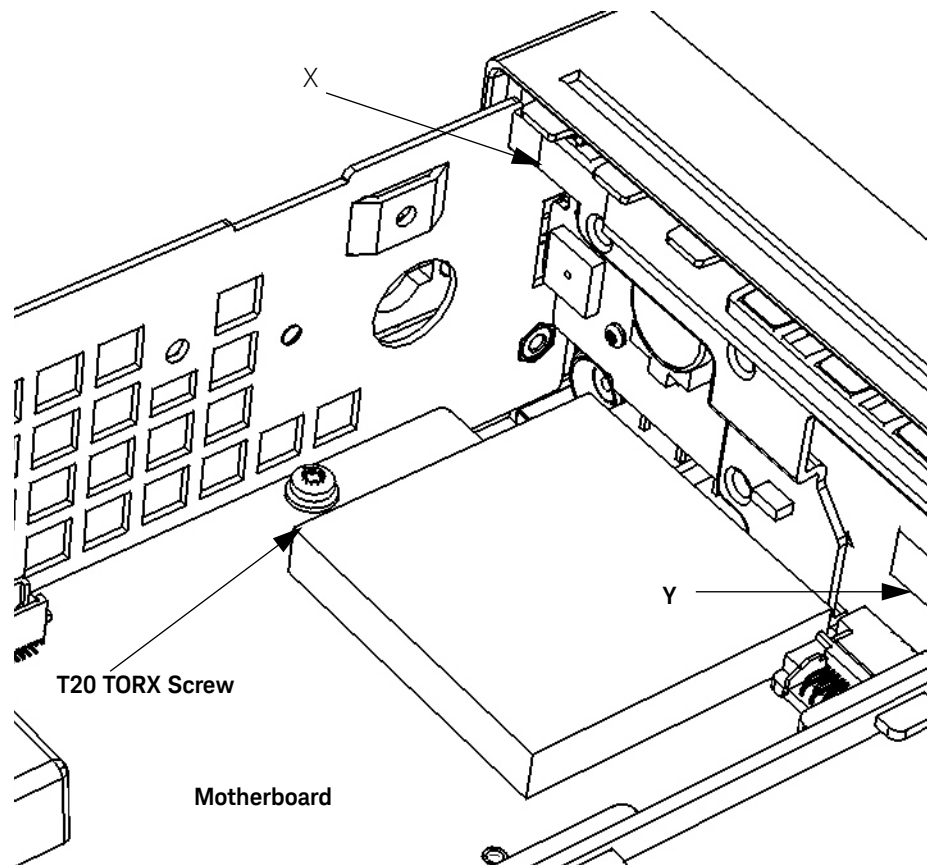

Figure 4-18 T20 TORX screw on motherboard
- 5 Turn the counter chassis upright and position the counter as shown in Figure 4-18.
- 6 Remove the T20 TORX screw on the front left-hand side of the motherboard as shown in Figure 4-18.
- 7 With your right hand, press in on the plastic tab (X on Figure 4-18) at the top left front of the front panel, while at the same time, use your left hand to press in on the front of the left-hand aluminum chassis side-panel, so that the front of the side-panel overlaps the depressed tab and keeps it depressed.
- 8 On the middle front right-hand side of the front panel, pull the plastic tab (Y on Figure 4-18) carefully toward the rear of the chassis and simultaneously press in the right side panel of the aluminum chassis until the front panel is partially released.